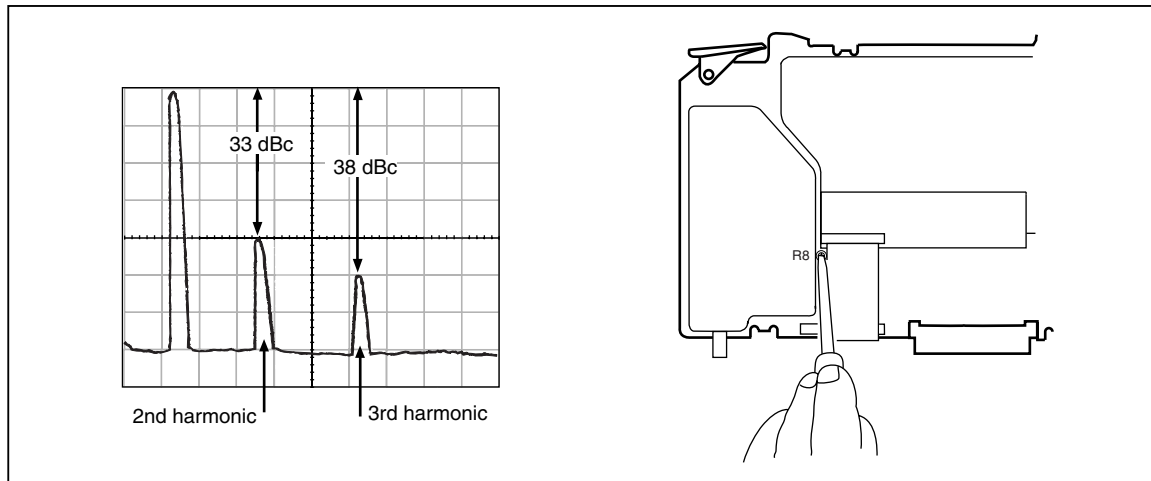

Figure 3-11. Adjusting the Leveled Sine Wave Harmonics
2. Use your Spectrum Analyzer's Peak Search function to find the desired reference signal. The Analyzer should show the fundamental, and second and third harmonics. The harmonics need to be adjusted so that the second harmonic is at 33 dBc and third harmonic should typically be at 38 dBc as shown in Figure 3-11.
3. To adjust the harmonics, adjust R8, as shown in Figure 3-11 until the peaks of the second and third harmonic are at the correct dB level. You may find that you can